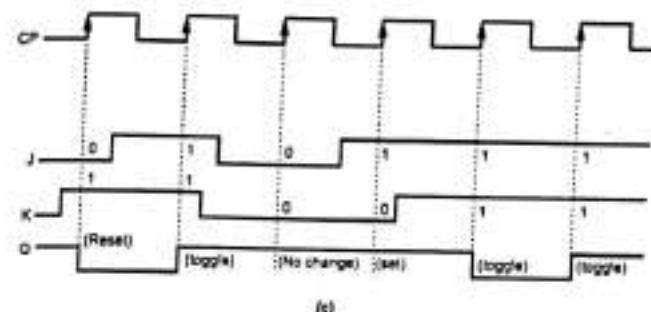

Fig. Q.58.2 Input and output waveforms for positive edge triggered JK flip-flop
- Fig. Q.58.2 shows logic symbol, truth table and input/output waveforms for positive edge triggered JK flip-flop.